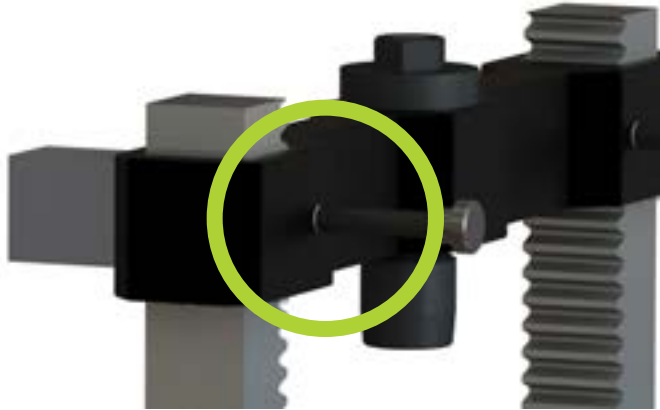

Figure 6: Quick-Change Latch: a) Correct: Fully Engaged; b) Incorrect: Partially Engaged
- The quick-adjust latches on the stage beam have a critical role in load bearing capability of the Benchtop Calibrating Machine. Before starting to apply a force, check the latches to ensure that they are completely pulled out, and the holding latches are fully engaged. Figure 6 demonstrates how the engagement of the stage beam latches need to be checked.